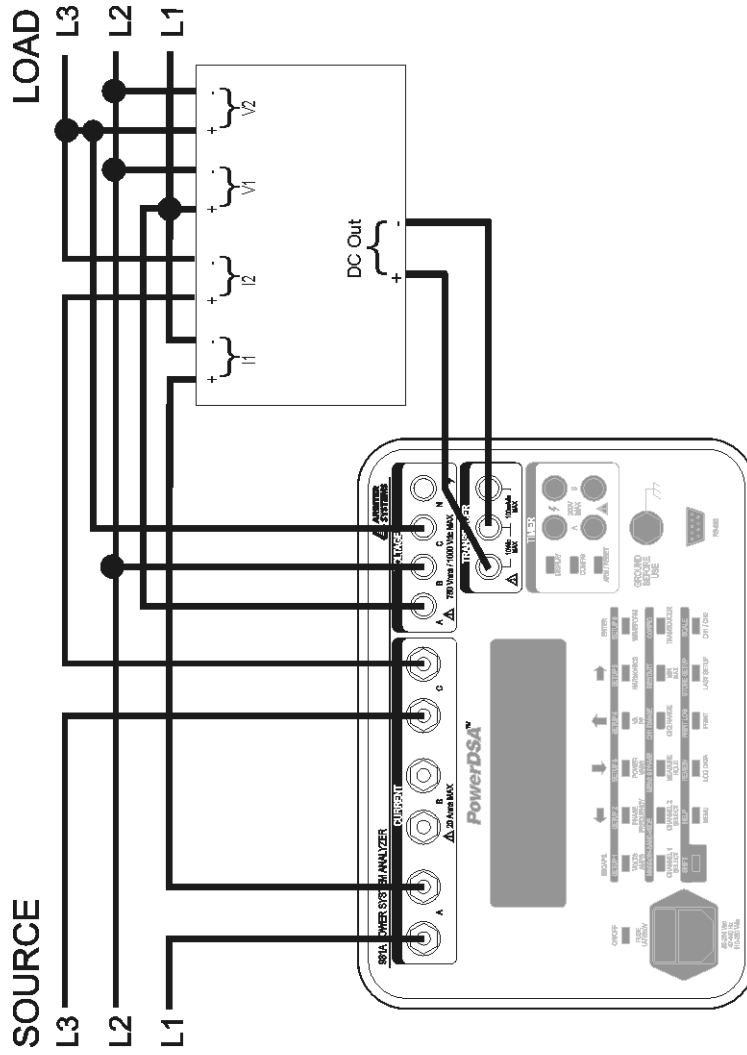

Figure 3-7 3-Phase, 3-Wire, 2-Element
- **“3Ph 4Wire 2.5E”** sets the Model 931A to measure values on a 3-phase delta circuit, for comparison with a 2.5-element transducer. See Figure 3-7.